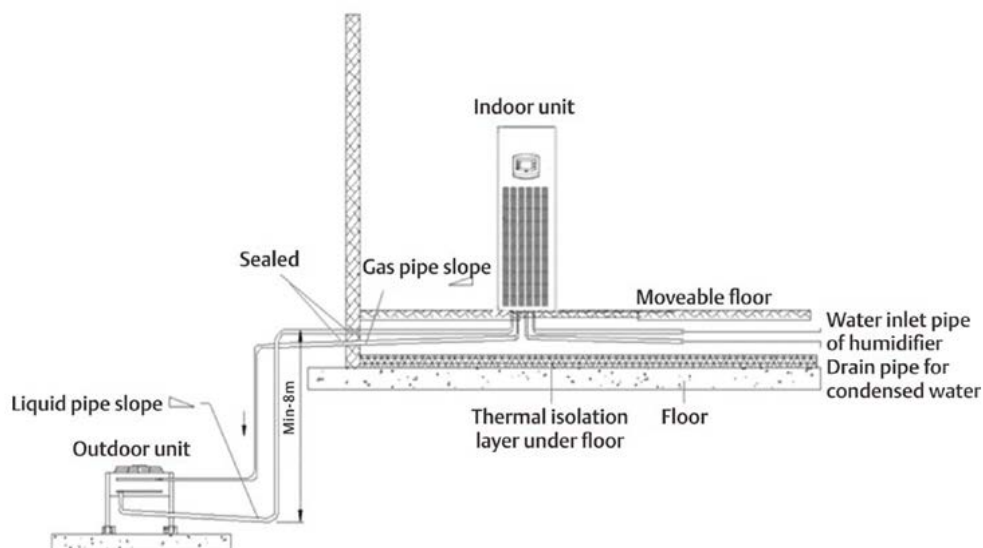

Figure 2-13 The Condenser is lower than the Compressor during installation
- Figure 2-13 depicts the schema of system installation when the condenser is installed at a lower level than the compressor: